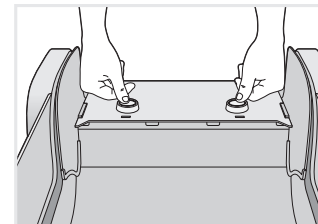

Fig. 10
- Depress pushtabs in waste receptacle compartment cover (Fig. 10). (Detach disposable waste receptacle lid from waste receptacle compartment cover.)